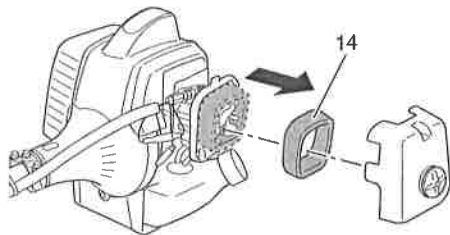

Fig. 17
**If the cutting attachment still rotates after adjustment of the idle speed adjustment screw (T), immediately stop the engine and cease use, then contact the nearest Tanaka dealer.**
**Air filter (Fig. 17)**